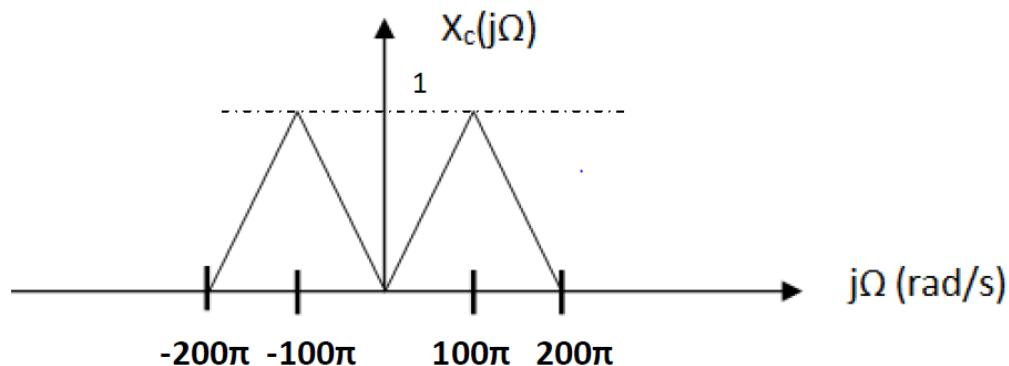

Fig. 1. CTFT of the band-limited analog signal in question 1
- a) Find the minimum sampling rate in both rad/s (Ω) and Hz (f) for the following band-limited analog signal whose CTFT is given in Fig. 1 such that it can be reconstructed from its samples.
b) The analog signal given in Fig. 1 is sampled with a sampling period $T=1/150$ s. Plot the **discrete time Fourier transform (DTFT)** of the sampled sequence by indicating all necessary information on the x- and y-axes. Determine whether the aliasing occurs or not. If aliasing occurs, specify the frequency region where aliasing occurs.
c) The analog signal given in Fig. 1 is sampled with a sampling period $T=1/500$ s. Determine whether the aliasing occurs or not. What is the highest frequency in the sampled signal? Let $\Omega_a = 100\pi$ rad/s be an analog frequency value. Which is the corresponding discrete frequency ω_a in DTFT?